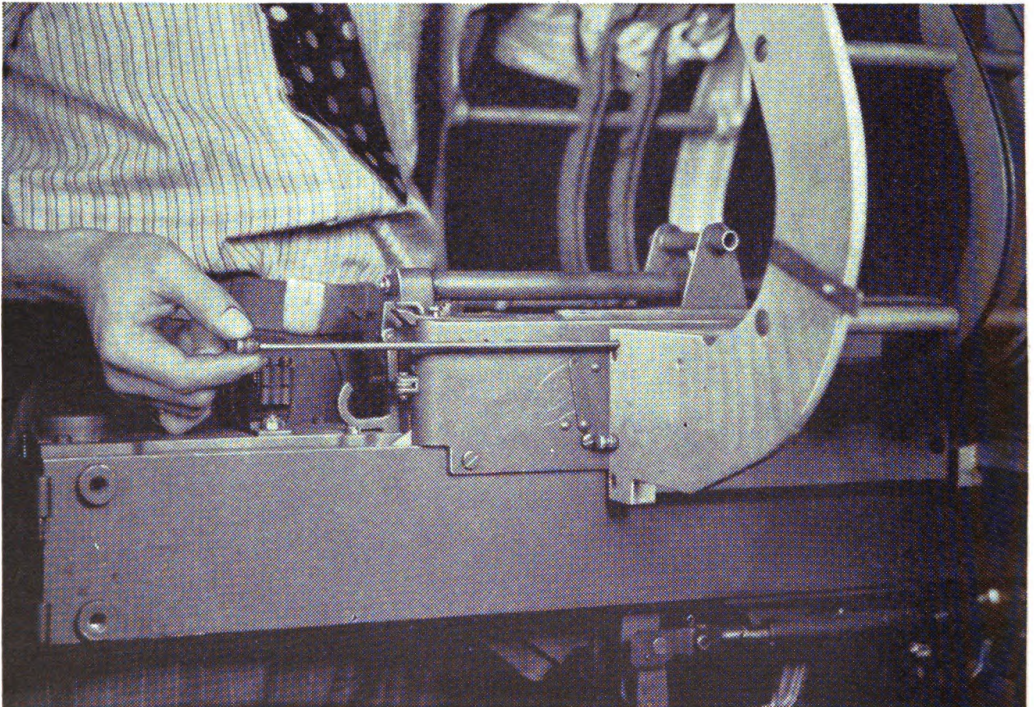

FIGURE 11.—Removing bolts holding 30-round magazine to feed box.
(6) Remove the cotter pins from the knurled head pins holding the right half.
(7) Withdraw rearward the pins holding the right half to the feed box, and pull away the right half (fig. 11).